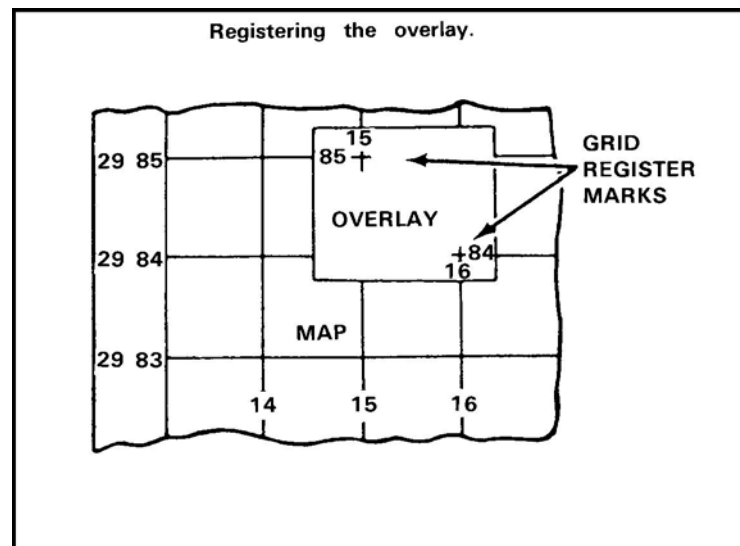

Figure 1. Registering the overlay.
3. Place the overlay on the map so that the grid register marks fall exactly on top of the grid intersections (Figure 1).